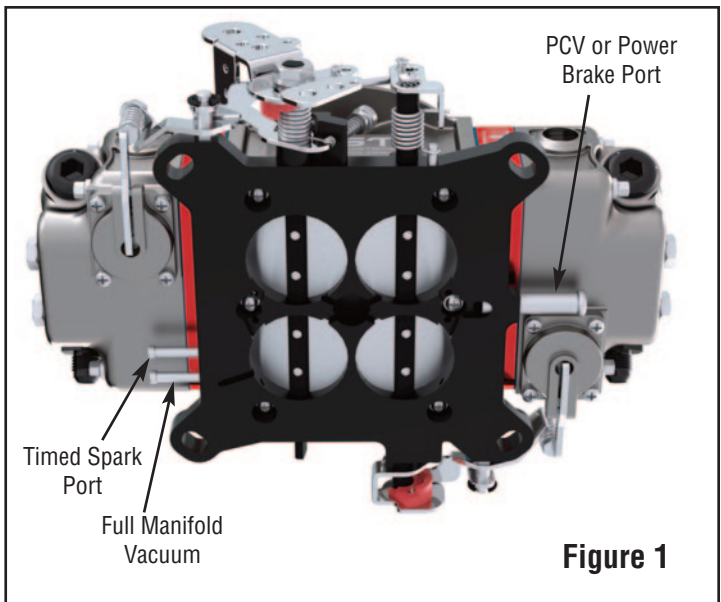

Figure 1
7. Install vacuum hoses. See Figure 1 and accompanying note. Install the PCV hose onto the 3/8" nipple at the back of the carburetor. If the PCV hose is not used, this nipple can be used for the power brake hose. It is not recommended to "Tee" the PCV hose and power brake hose together. They should be separate. If you need to connect both hoses, then connect the PCV hose to the rear carburetor fitting. You will need to drill and tap a hole into the plenum area of the intake manifold and use a 3/8" fitting for the power brake hose. Do not tap into an intake runner. It must be into the plenum which is the area directly under the carburetor where all the runners come together.